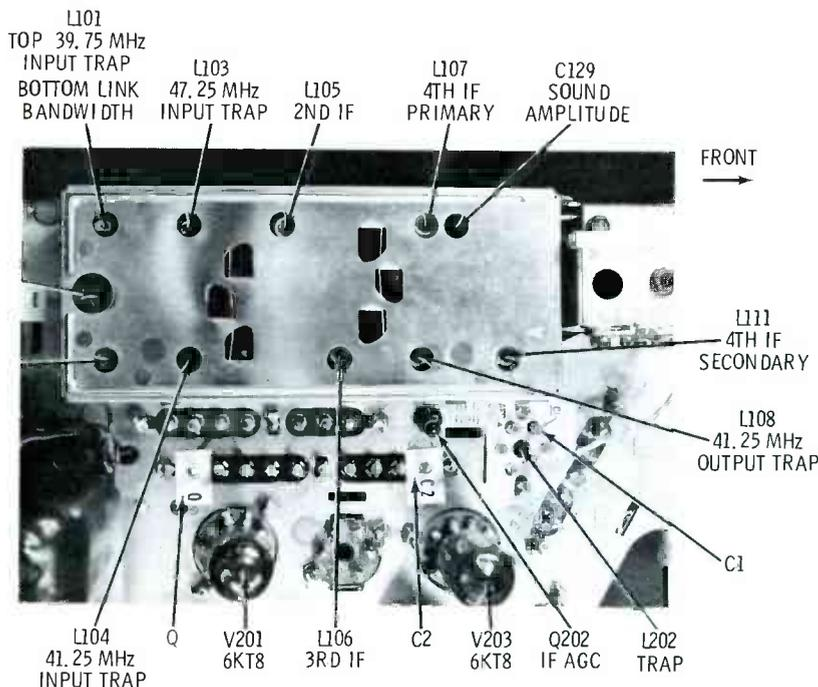

Fig. 9 Location of the IF adjustments and several top-of-the-chassis test points of the receiver.
4) Increase the scope gain to maximum and advance the ATTENUATOR control until 400-Hz sine waves can be seen (they probably will not be locked). Adjust the one core of L108 (the 41.25-MHz output trap) for minimum scope height. See Fig. 9 for the trap and transformer locations.